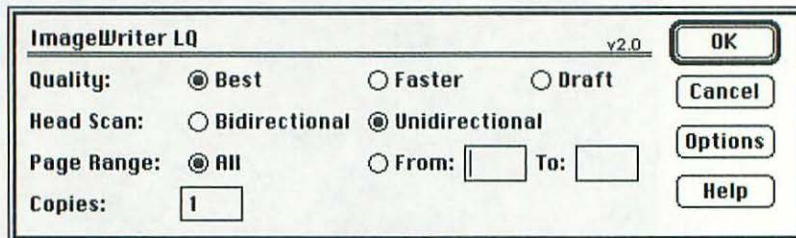

Figure 3-26 Use the Print... dialog box to select Best quality printing.
8. Choose Print... from the File menu. Select Best quality as shown in Figure 3-26 and click the OK button (or press the return key) to print the color sample.